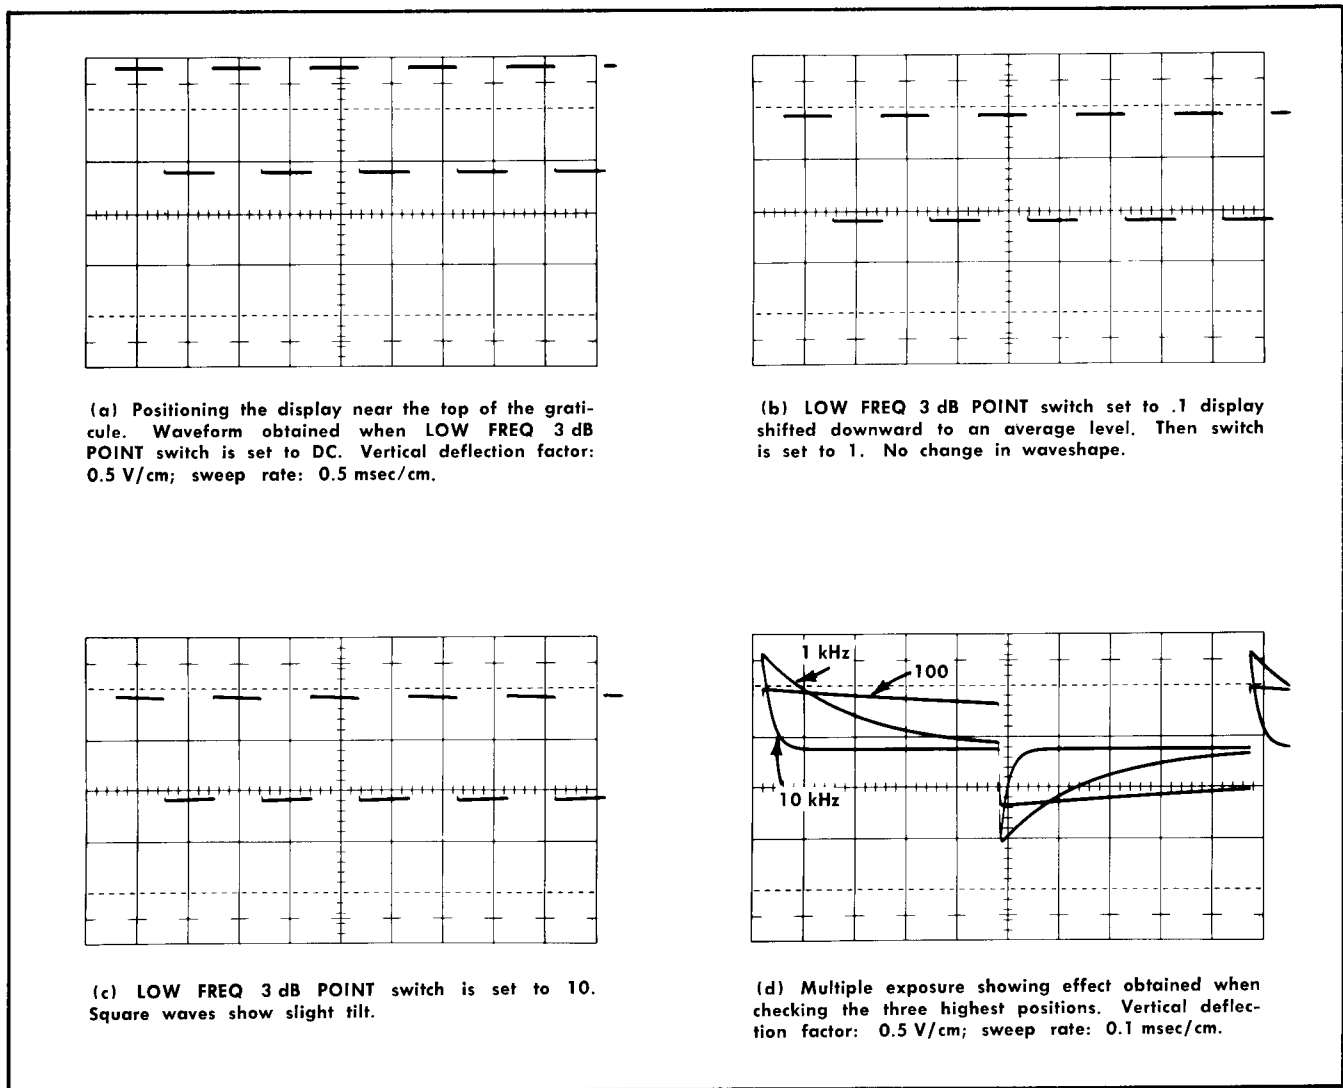

Fig. 5-9. Checking all positions of the LOW FREQ 3 dB POINT switch. HIGH FREQ 3 dB POINT switch is set to 500 kHz.
a. Requirement—Decay in square-wave response should correspond to Fig. 5-9.
c. Position the display to the point shown in Fig. 5-9.
d. Check—Decay in square-wave response for all positions of the LOW FREQ 3 dB POINT switch. Use Fig. 5-9 as a guide.